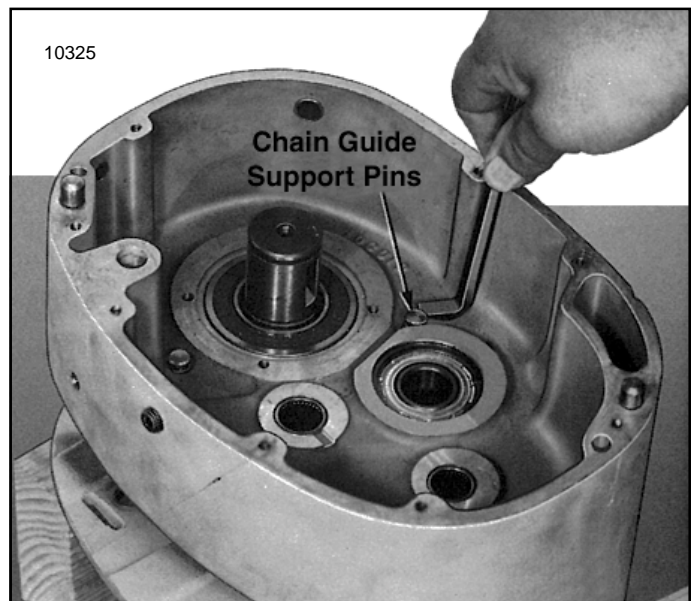

Figure 7-12. Removing Chain Guide Support Pins Using Pry Bar
- (3) Using suitable pry bar (Figure 7-12) partially raise three chain guide support pins from their bores in frame. Pull them the rest of the way out using pliers with jaws protected to avoid damaging pins. Remove and discard two "a" ring gaskets from grooves on each support pin.